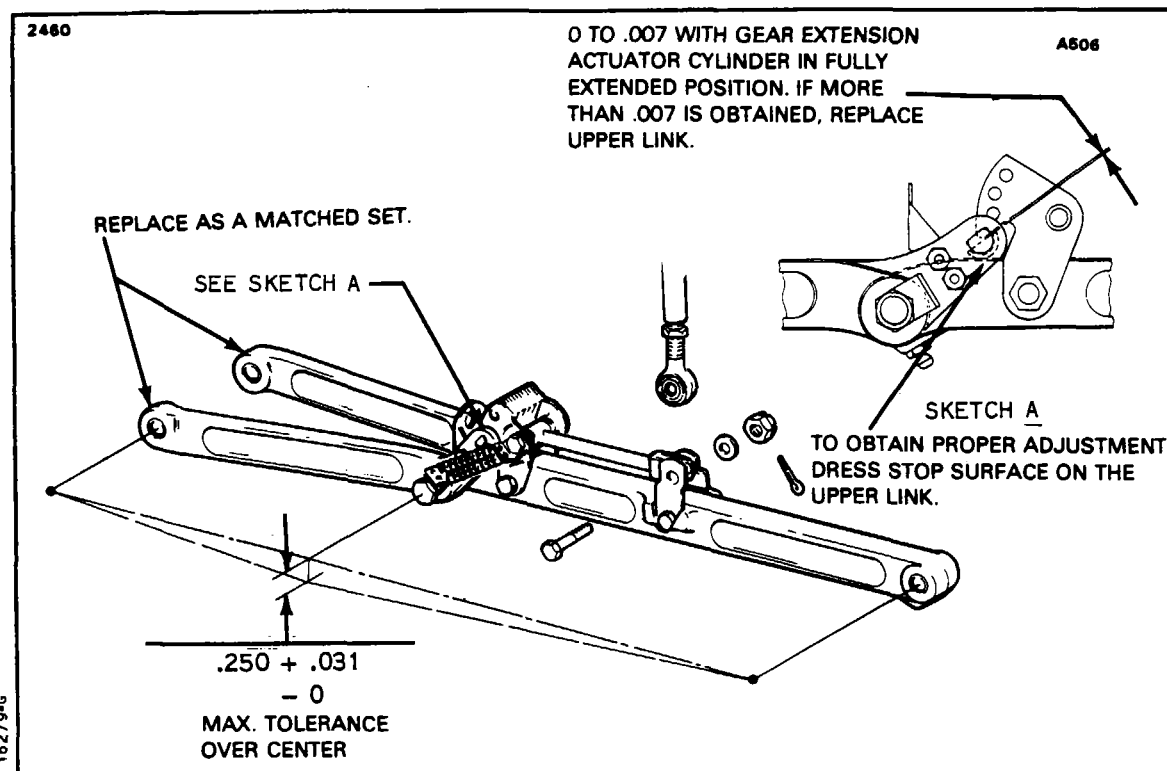

Figure 7-3. Adjustment of Nose Gear Drag Link and Latch Assembly
c. Attach the upper and lower drag links and check that there is 0 to .007 of an inch clearance between the latch hook and pin. Dress upper and lower link stop surfaces to obtain minimum clearance. Also check that when the stop surfaces touch, linkage is $.250 +.031 -0$ inch through center. (Refer to Figure 7-3.) Should this distance exceed the required through center travel, and bolt and bushings are tight, replace one or all drag links.
g. Ascertain there is 0 to .007 of an inch clearance between the latch and hook. (Refer to Figure 7-3.)